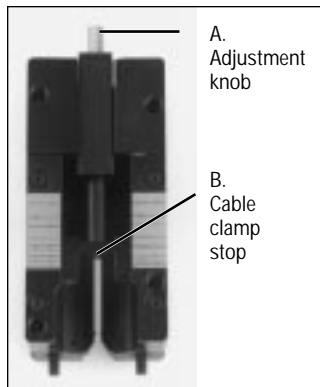

Figure 6. Back side of 10962-2000 Fixture Unit
- If planning to terminate with flat cable, then proceed to Step 7. Otherwise, turn the fixture unit over and locate the size indexes on the two strips adhered to the bottom sides (Fig. 6).
- Adjust the cable clamp stop (B of Fig. 6) by turning the adjustment knob (A of Fig. 6) on the rear of the unit to align the grooves in the cable clamp stop with the correct size index. Return fixture unit to shuttle block.
- A. To use the fixture unit, first remove the cable clamp stop (B of Fig. 6) from the fixture unit. This is done so that the flat cable may be inserted into the fixture unit without obstruction.